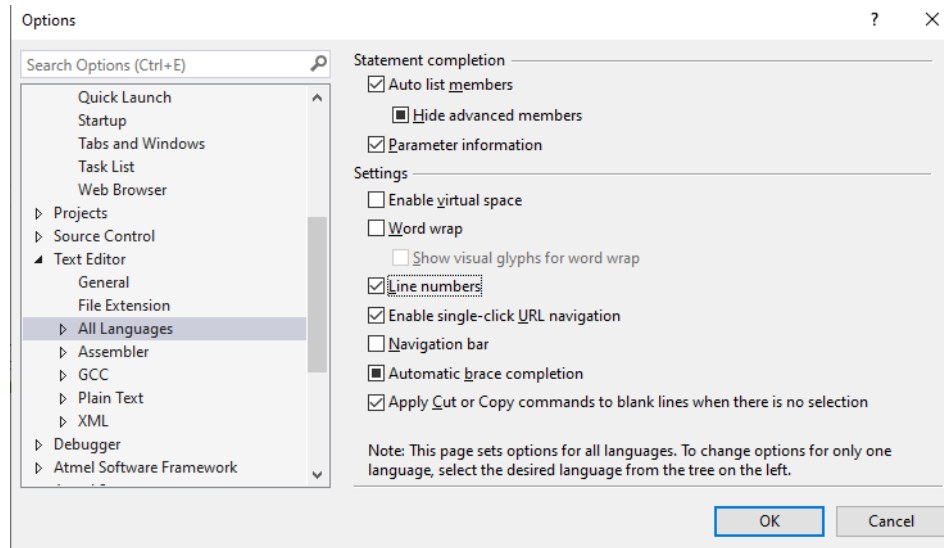

Figure 8: Enabling Line Numbers.
**NOTE:** We suggest enabling line numbers in the code editor. Navigate to **Tools** → **Options** → **Text Editor** → **All Languages** and select *Line Numbers*, under the *Settings* heading, as shown in *Figure 8*.